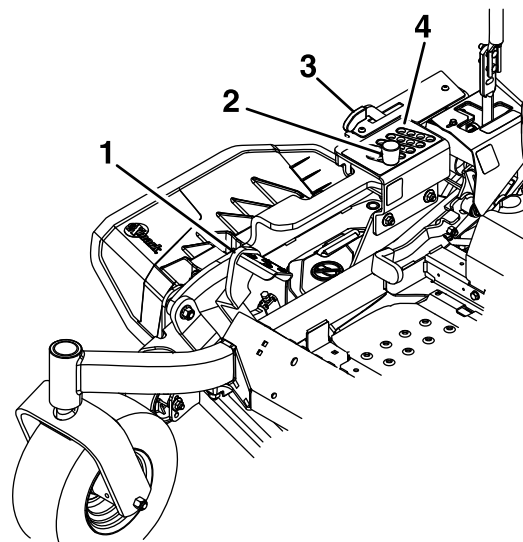

Figure 17
4. Raise and lock the deck to the 5 1/2 inch (14 cm) transport position (see Figure 17).